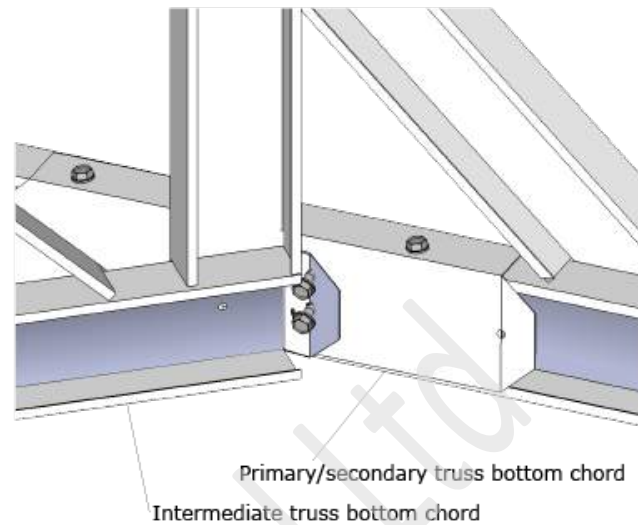

Figure 7.30d(i) Connection between primary and intermediate truss (Top Chord) Figure 7.30d(ii) Connection between primary and intermediate truss (Bottom Chord)
**STEP 9:** Lift the remaining intermediate trusses into their required position and use the same tie down fixing on the wall frame as per the secondary trusses. Where these intermediate trusses join to the primary trusses ensure that some partial boxing plate is added (to the open side of the primary truss) and fixed with 4x12-14x20 hex head fasteners through the flanges towards the ends of this piece. These intermediate trusses have an extension to the top chord that will manually need to be bent to fix to the primary truss as this area. This bent tab is attached with 2x2-14x20 fasteners through this top chord extension into the top chord of the oncoming truss. The bottom chord also is extended of this intermediate truss and follows the same partially boxing method as just described. Refer to figures 7.30d(i) and 7.30d(ii).